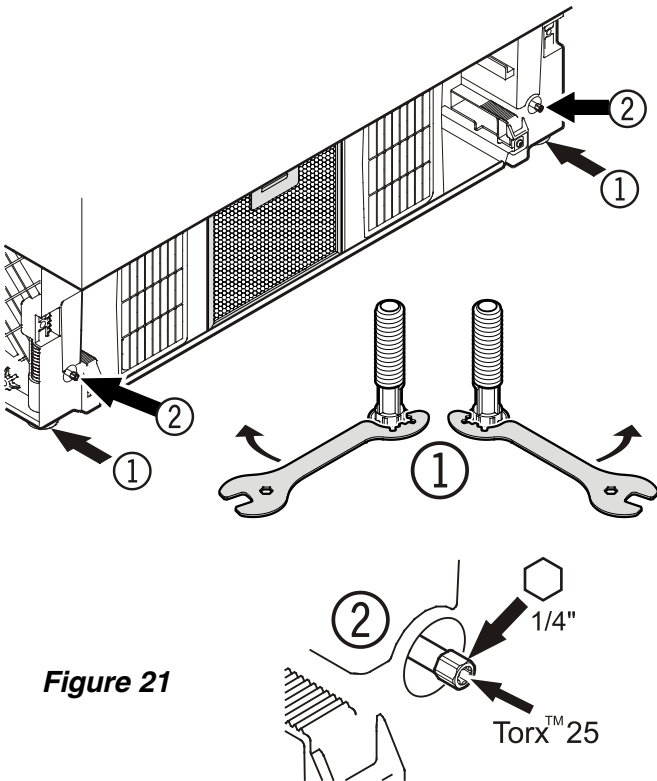

Figure 21
## Leveling the Appliance - Figure 21
1. Adjust the height of the appliance at the front by twisting the leveling feet ①. Use the open-ended spanner provided. Turn the spanner counterclockwise to raise the appliance front and clockwise to lower it. Position the spanner accordingly (**Figure 21 - ①**).
2. Adjust the height of the appliance at the rear by turning the adjusting bolts ②. Use a 1/4" box spanner or the Torx 25 wrench provided.
3. Rotate leveling feet ① until firmly in place against the floor.
To prevent the appliance from tipping forward the leveling feet ① (**Figure 21**) must have contact with the floor.